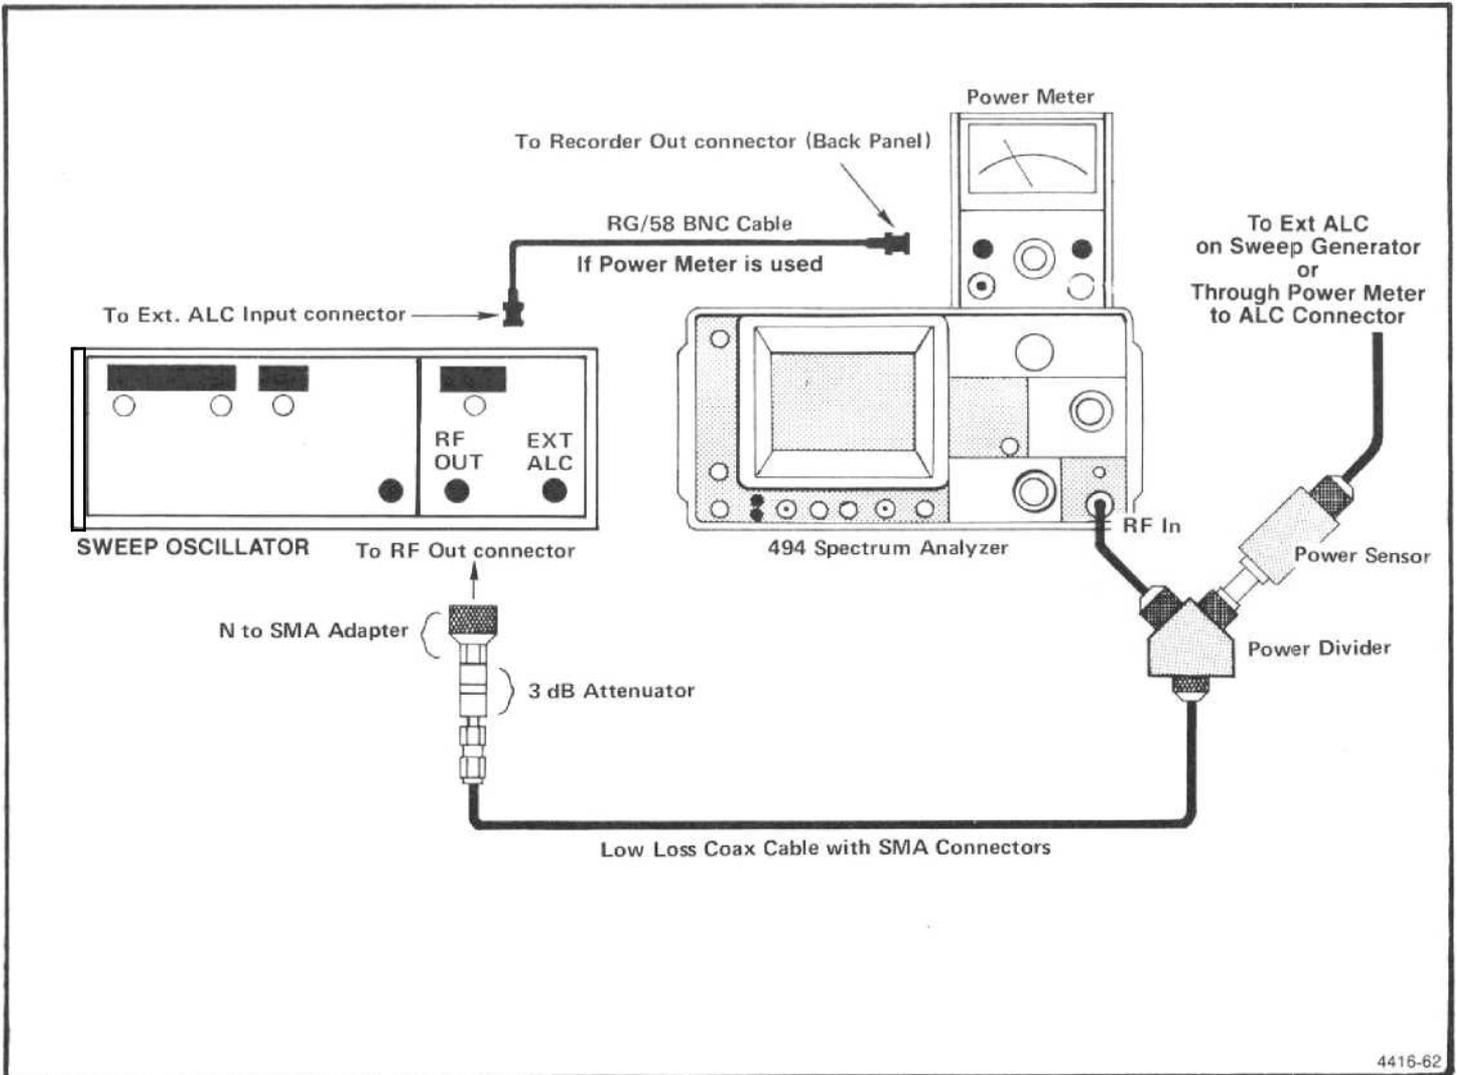

Figure 4-13. Test equipment setup for measuring .01 to 21 GHz frequency response.
e. Replace the 10 kHz to 10 MHz signal source with a 0.01 to 2.4 GHz sweep oscillator and connect the test equipment as shown in Figure 4-13. The output of the Sweep Generator is applied through a 3 dB attenuator and high performance coaxial cable to a power divider. Connect one output of the power divider to the RF INPUT of the 494/494P and the other output to the sensor for the power meter or to the ALC input of the sweep oscillator.
k. Replace the 0.01 to 2.4 GHz sweep source with a sweep oscillator that covers the frequency range to 21 GHz. Connect the test equipment as shown in Figure 4-13. On the RF plug-in, switch the ALC to Mtr position and connect a